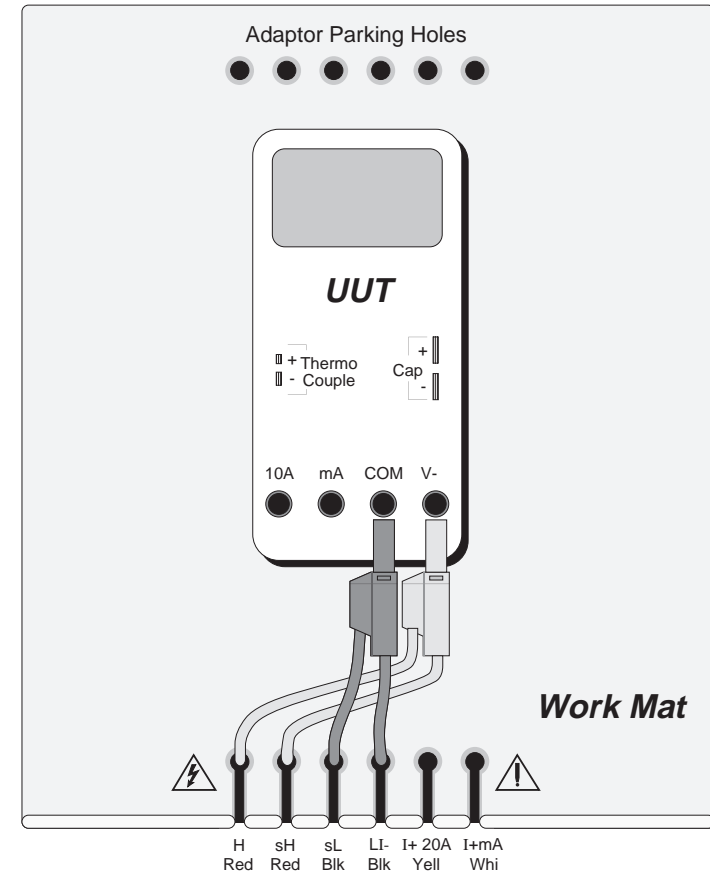

Fig. 4.9.2 Interconnections for UUT Frequency Calibration
The general connection scheme for UUT calibration is illustrated in *Fig. 4.9.2*.
1. **Connections** Connect the 9100 to the UUT as shown in *Fig. 4.9.2*, and ensure that both instruments are powered ON and warmed up.